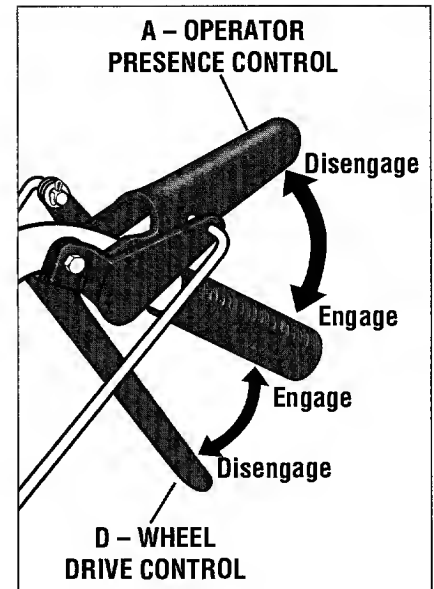

Figure 3-5
Use this lever (D, Figure 3-5) to engage and disengage drive to the wheels.
To engage the wheels, first select a forward or reverse gear with the Gear Select Lever and press the Operator Presence Control (A, Figure 3-5) against the handlebar grip. Then, squeeze the Wheel Drive Control lever (D) up against the handlebar grip. The ground speed can be varied in any gear by increasing (to go faster) or decreasing (to go slower) pressure on the lever. **To avoid sudden acceleration, slowly squeeze the lever when first engaging the wheels.**